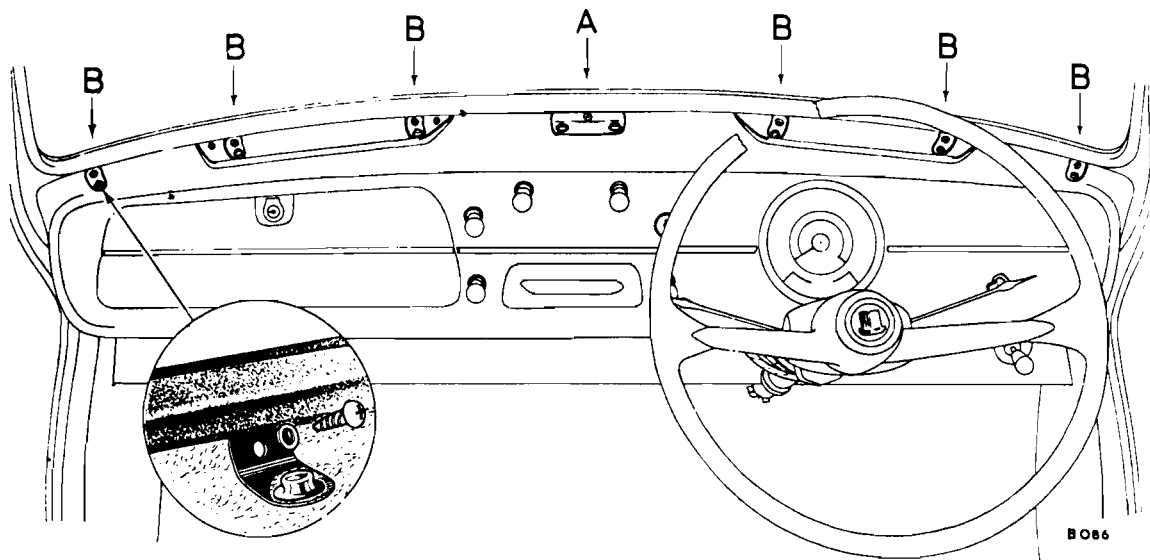

Fig. 1 Showing location of brackets on lower screen rail
2. Remove the remaining screws and fit the six single brackets (B) (See Fig.1).